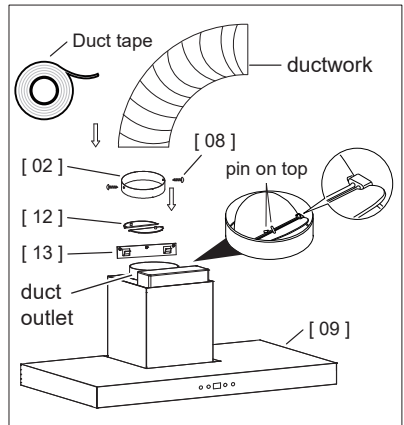

Fig 4
1. Hang the **Range Hood [09]** on the **Range Hood Bracket [13]**. (Fig 4)
2. Install both **Damper Flaps [12]** inside the **duct outlet**, making sure the pins are on top. (Fig 4)